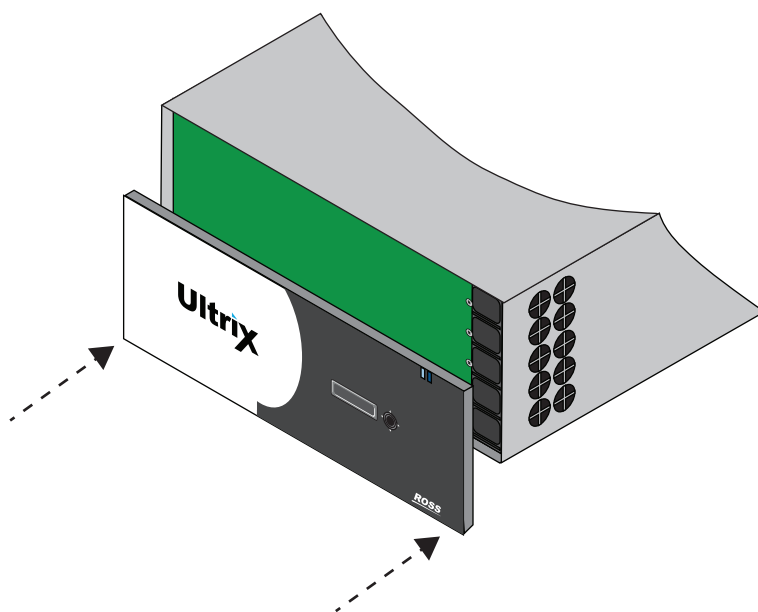

Figure 24 ULTRIX-FR5 — Aligning the Door to the Chassis
- the corner with the Ross logo is in your right hand. (**Figure 24**)